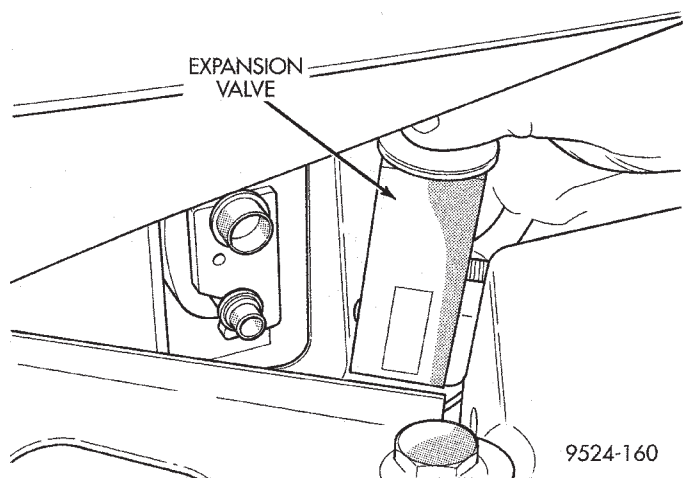

Fig. 29 Expansion Valve Removal
- (13) Carefully remove expansion valve (Fig. 29).
- (14) Remove the old O-rings.